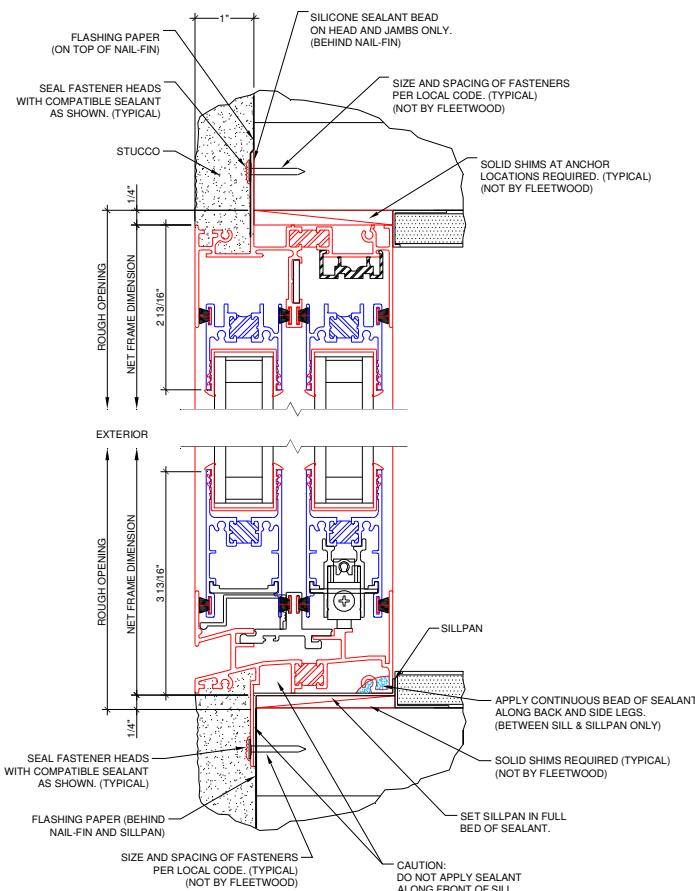

Figure 11:
3. Apply a continuous bead of sealant along the back and side legs between the sill and sill pan (Figure 11,12) and insert the frame into the opening.